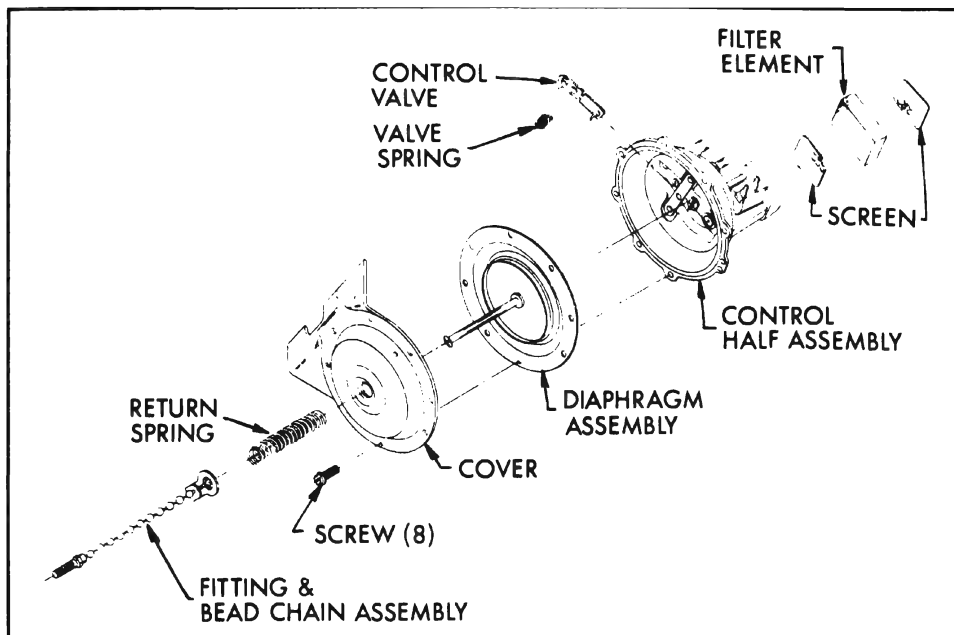

Figure 11-179—Exploded View of Power Unit
5. Depress the diaphragm return spring and remove bead chain by turning fitting 90° and slipping off shaft. See figure 11-179.